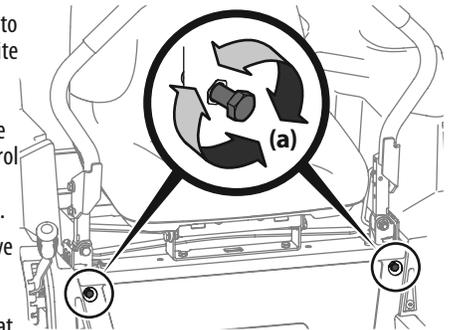

Figure 37
2. Locate the lapbar drive control lever stop adjustment bolts (a) on the front of the seat frame. See Figure 37.